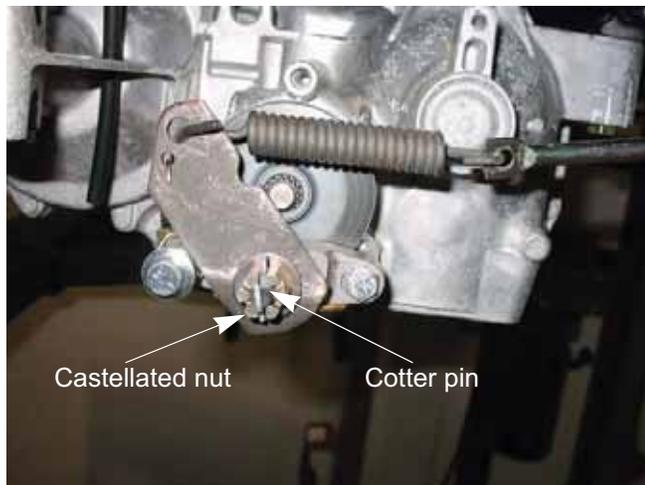

Figure 3.4
4. Remove the cotter pin locking the castle nut on the brake caliper. See Figure 3.4.